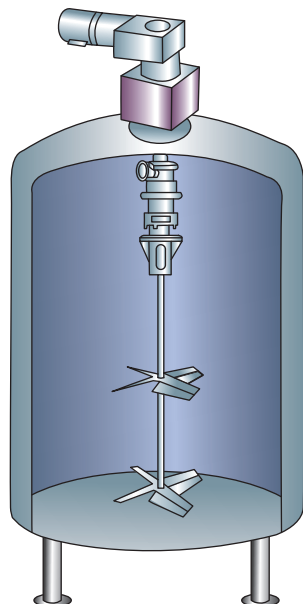

Figure 15.8 Mixer.
- **Mixer**—a device used to stir chemicals or other substances; mixers can be mounted vertically or horizontally in a vessel. Mixers can be operated at the tank site using motors located outside the vessel or be started remotely, depending on the type of service. Figure 15.8 shows an example of a mixer.